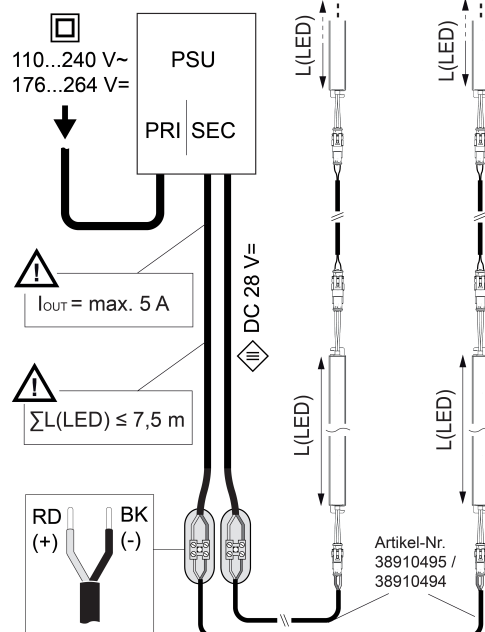

Figure 4: Connection diagram
- Connect the light inserts according to the con-nection diagram (Figure 4).